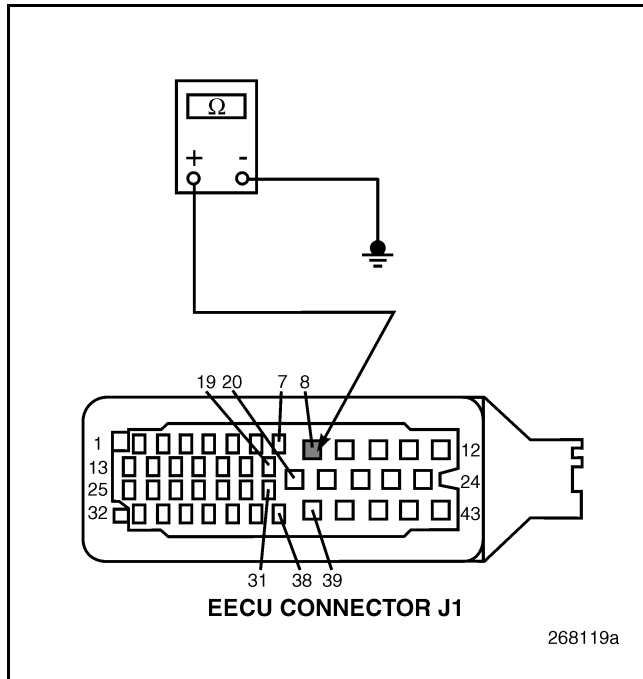

Figure 491
4. Check for continuity between EECU connector J1 pin 8 and a good ground (see Figure 491).